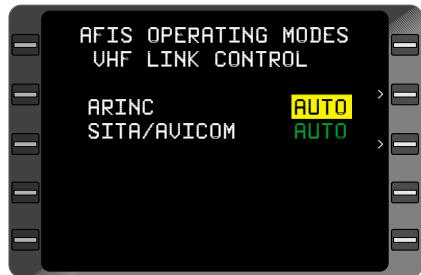

Figure 7-96
6. **ENTER** Key - DEPRESS to turn VHF network on. **VHF LINK CONTROL** Page appears. (Figure 7-96)